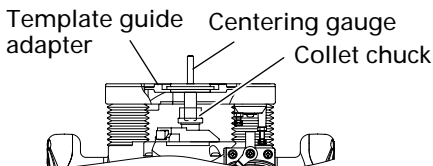

Fig. 10
② Insert the centering gauge through the hole in the template guide adapter and into the collet chuck. (Fig. 10)
③ Tighten the collet chuck by hand.
④ Tighten the template guide adapter screws, and pull out the centering gauge.
(2) Template guide